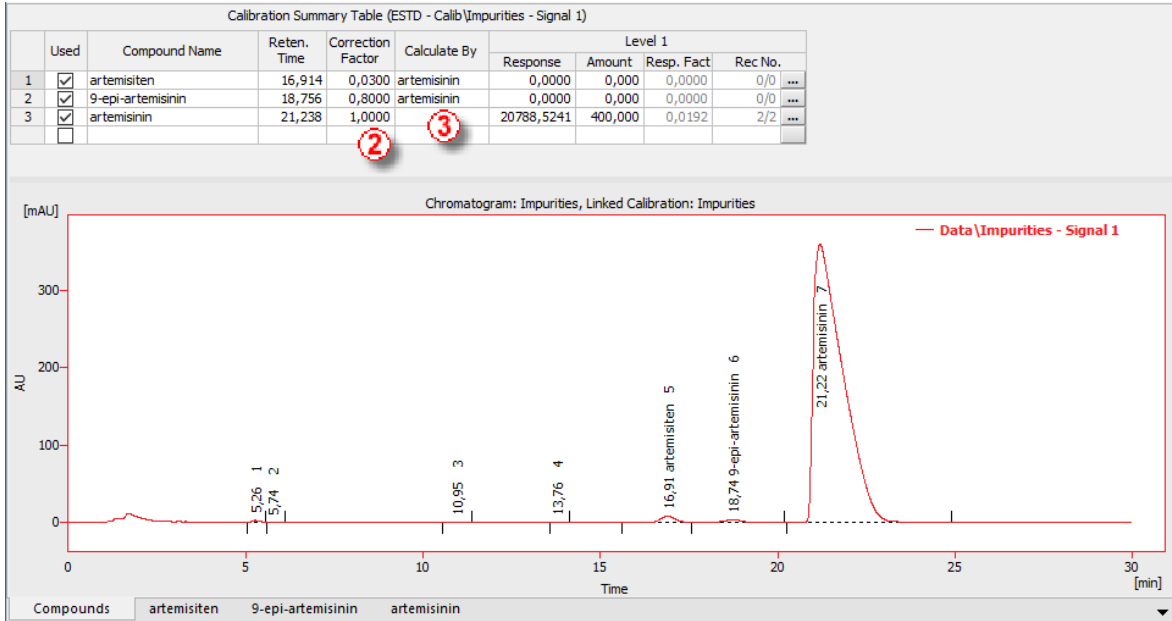

Fig. 4 – Calibration for determination of percentual content of impurities.
The equation in Fig. 2 defines the determination of the percentage content of artemisiten, 9-epi-artemisinin, and all other unspecified impurities. This equation introduces response factors that can be set in the calibration file as correction factors ② (Fig. 4). The correction factors are to be set in the respective calibration file; in this case, the calibration file is called "Impurities." As the impurities content calculation is related to artemisinin, it is necessary to add this relation into the calibration file. This can be done when applying the "Calculated By" ③ column and selecting artemisinin as the calculation basis. See the setting of the related calibration file in Fig. 4.